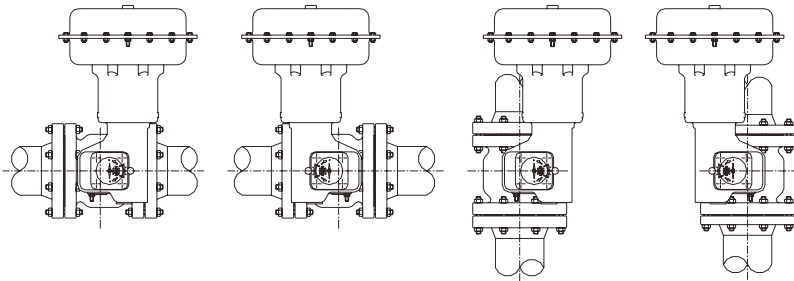

Fig. 1 - Valve Installation
5. During the installation the actuator must be posi-*tioned* on the valve in vertical position. Figure 1 shows several assembling alternatives that may be supplied.